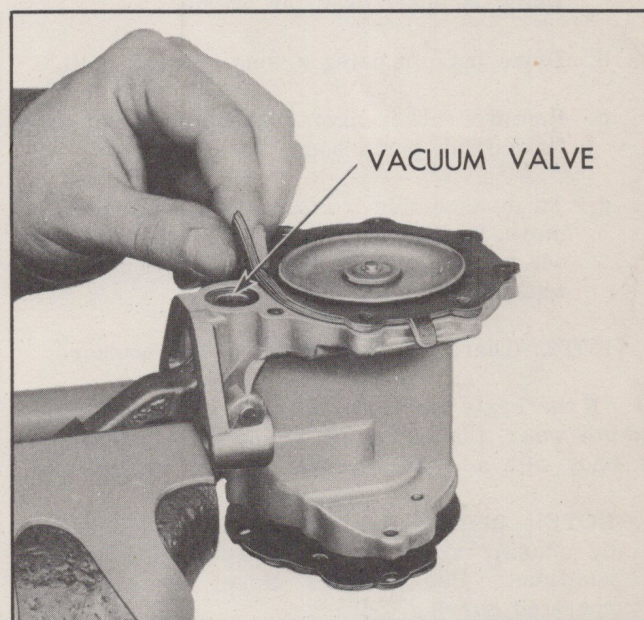

Fig. 1 Location of Vacuum Valve
4. Lift vacuum diaphragm and remove vacuum valve from body under diaphragm at rocker arm side (Fig. 1).